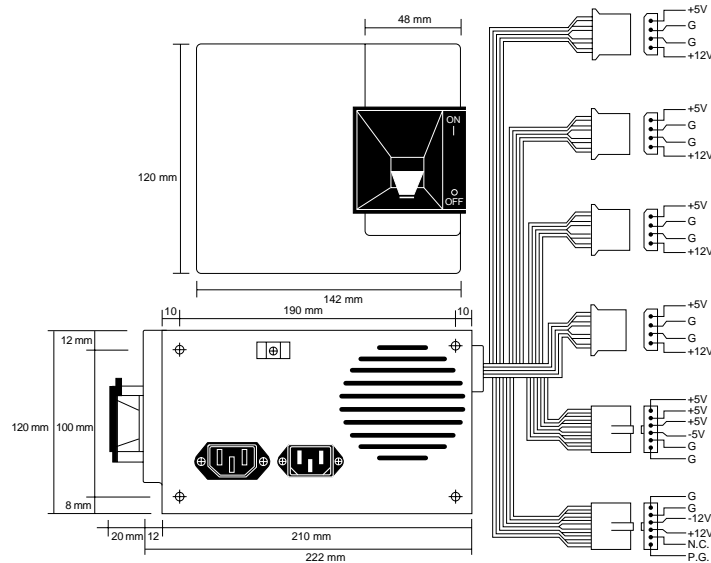

FIG. 8.1 PC/XT-form factor power supply.
**PC/XT Style.** When IBM introduced the XT, it used the same basic power supply shape as the original PC, except that the new XT supply had more than double the power output capability (see Figure 8.1). Because they were identical in both external appearance and the type of connectors used, you could easily install the better XT supply as an upgrade for a PC system. Because of the tremendous popularity of the original PC and XT design, a number of manufacturers began building systems that mimicked their shape